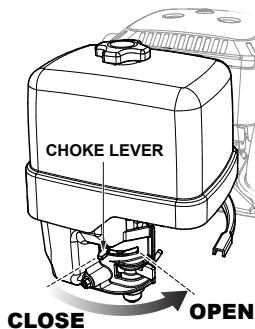

Figure 18. Choke Lever (Open)
3. If the choke lever was moved to the "CLOSED" position to start the engine, gradually move it to the "OPEN" position (Figure 18) as the engine warms up. If the engine has not started, repeat steps 1 through 6.